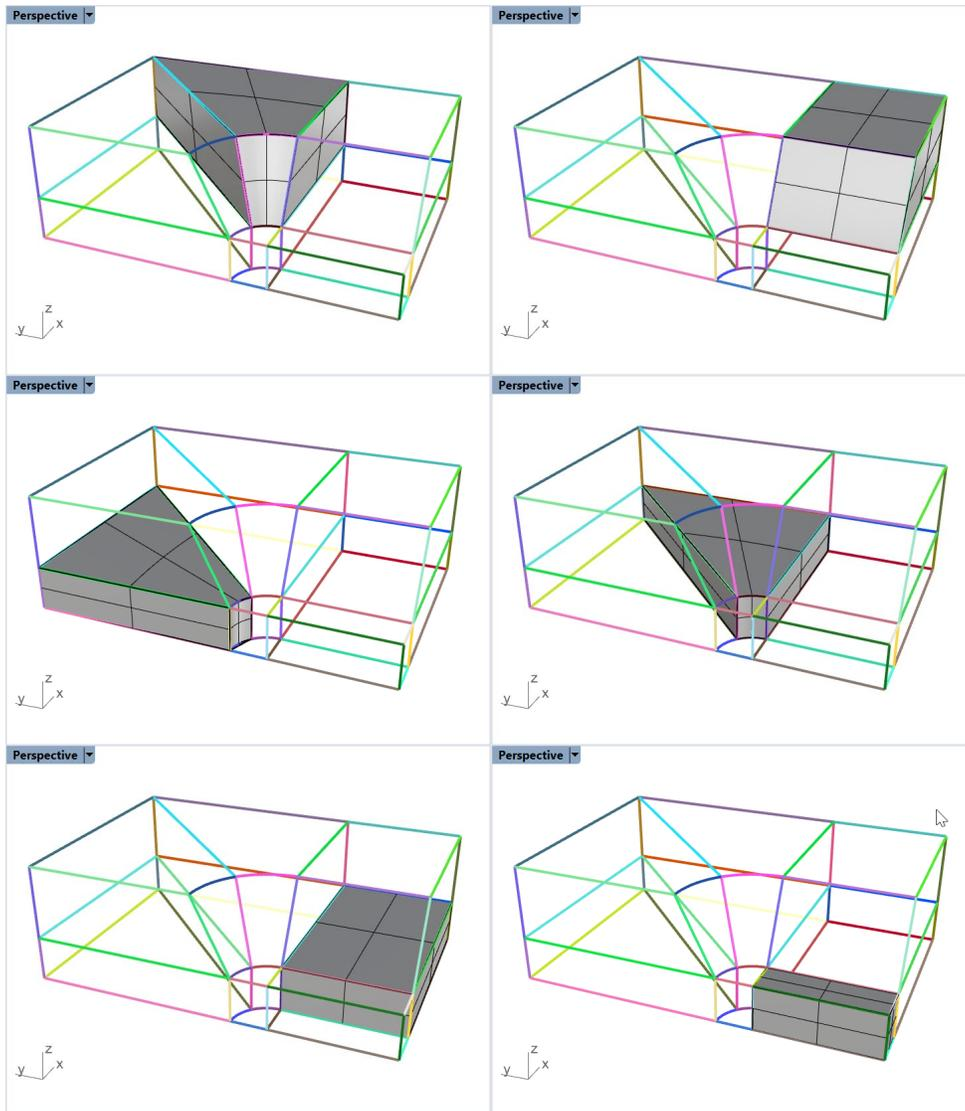

Figure 45: Building solid blocks for the model.
- In the same manner, build all other solid blocks except for the small central block, as it requires an additional operation (described below). The stages are outlined in Figure 45.